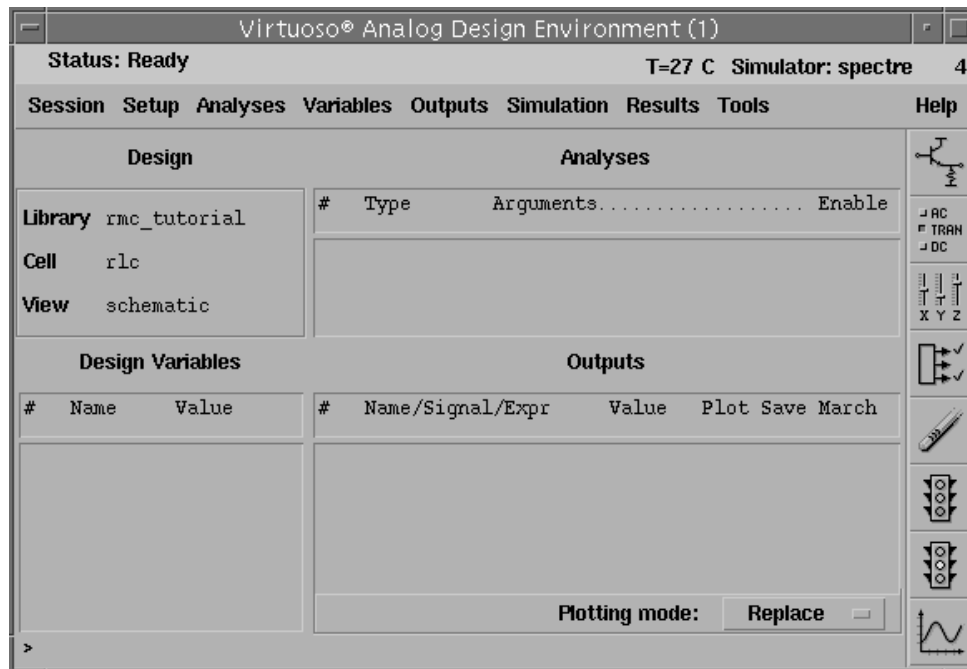

Figure 11: Analogue Circuit Design Environment
Now that the schematic is ready for simulation, we start the simulation tools and setup the basic environment for analogue simulation. Select **Tools | Analog Environment**. *Figure 11* is displayed. First, select **Setup | Simulator/Directory/Host** and ensure that *spectre* is selected under Simulator and click **OK**. From the Virtuoso Analog Environment, select **Session/Options**
- a. From the Analog Design Environment window (shown in *Figure 11*), select **Tools | Waveforms ...**. The Waveform window is displayed;